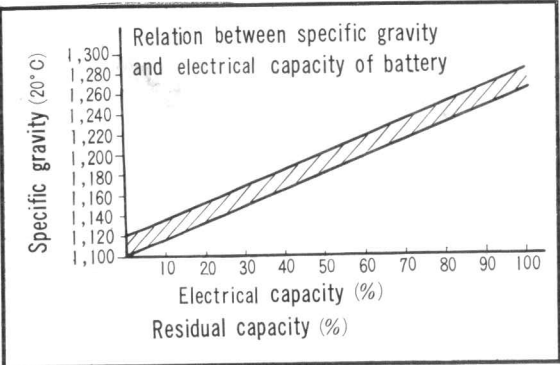

Figure 5-18. Specific gravity and residual capacity chart
- The relation between the battery capacity and the specific gravity (residual capacity) is shown in Fig 5.18. When the specific gravity is 1.189 at 20°C (68°F) (less than 50% capacity) the residual capacity is small and if continued to be used in such a condition, it will eventually lead to trouble as well as shortening the battery life, therefore, the battery should be recharged as soon as possible (Fig. 5-18)